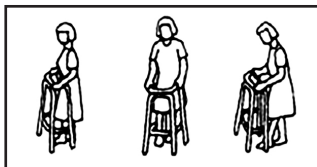

FIG. 4
2. When steady, lift the frame forward a short distance (if using a wheeled frame, push it forward) and repeat this process (Fig 4).